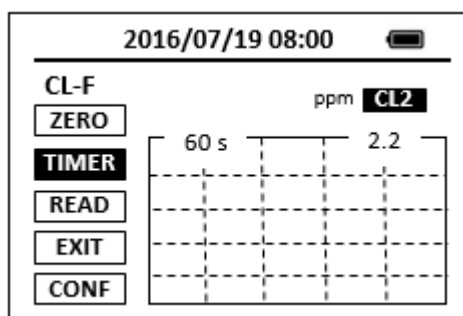

Figure 13 Single Timer Method
1. Place the sample vial filled with the water sample in the SP-910 sample vial compartment and press the **ZERO** button. The SP-910 will display the page shown in Figure 13.